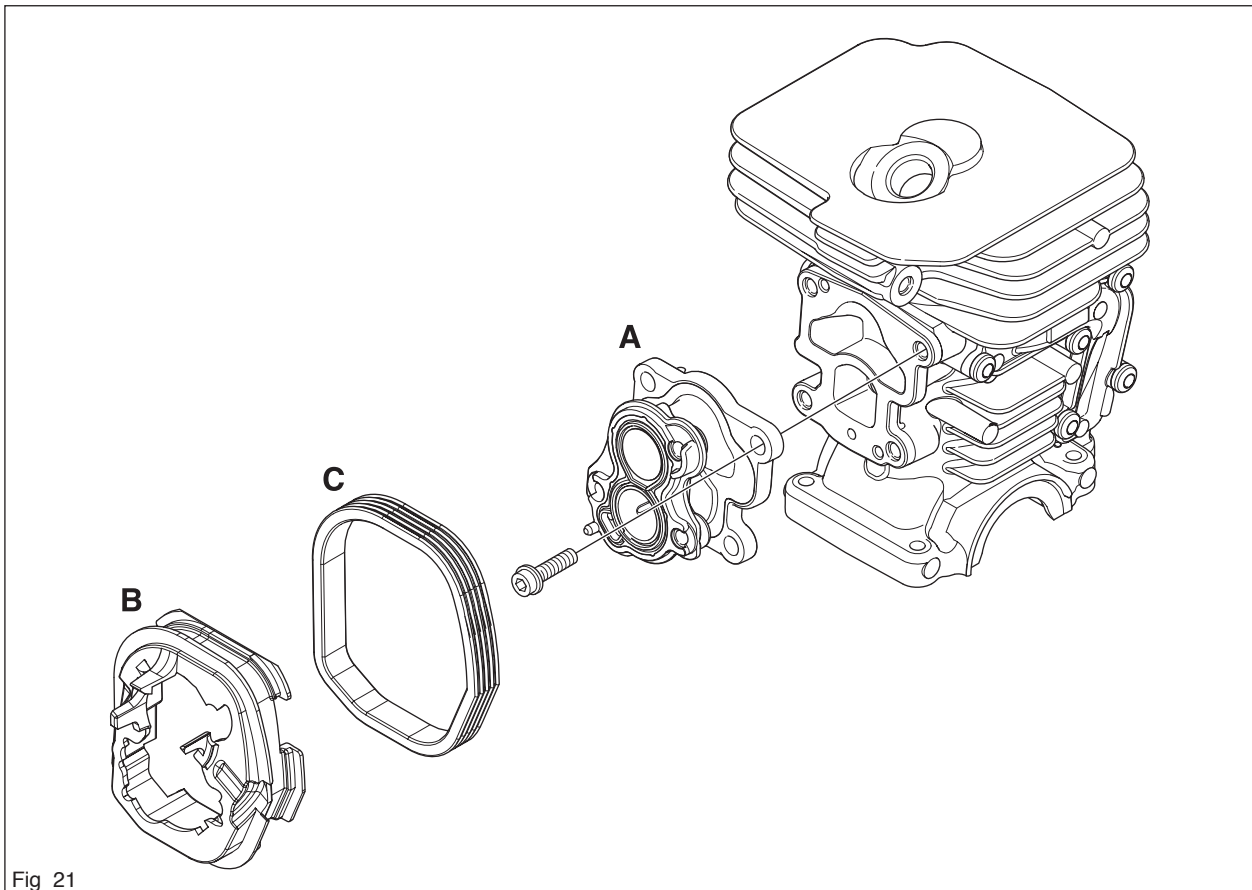

Fig 21
Fit the intake manifold (A) and the partition walls (B and C) on the cylinder using tool 502 50 87-01 (see figure 21).
(see figure 21)